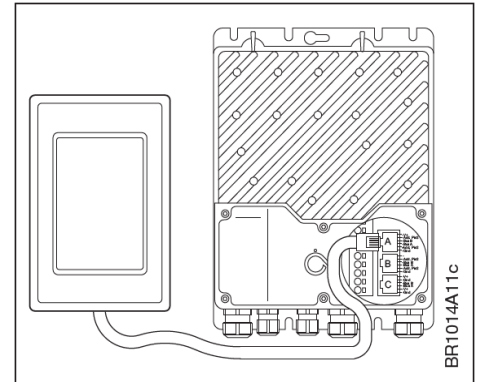

Fig. 4-1: Connection of a hand terminal to NI-DV I
- NI-DV can be configured using a hand terminal (H-Term with dial wheel or successor HMI-35T with touchscreen) which is connected via Modbus RJ12 connector "A" (see fig. 4-1).